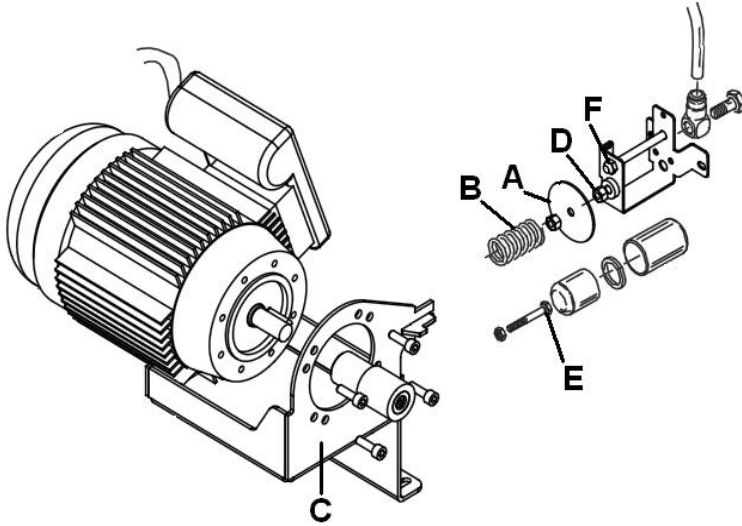

Fig.3
- Undo the lock-nut (D, fig. 3) which fixes the adjuster washer (A, fig. 3).
- Completely tighten the adjuster check nut (D, fig. 3). This eliminates the preload of the spring (B, fig 3).
- Undo the screws which fix the motor support (C, fig. 3) to the beam underneath.
- Preload the spring (B, fig. 3), unscrewing the check nut (D, fig. 1); until the gap between the drive roller and the pulley has been reduced to 2 mm.
- If the screw (E, Fig.3) does not slide freely when activating the cylinder, turn the nut (F, Fig.3).
- Completely tighten the adjuster check-nut (D, fig. 3). This eliminates the preload of the spring (B, fig 3).
- Undo the screws which fix the motor support (C, fig. 3) to the beam underneath and remove the motor-support assembly.